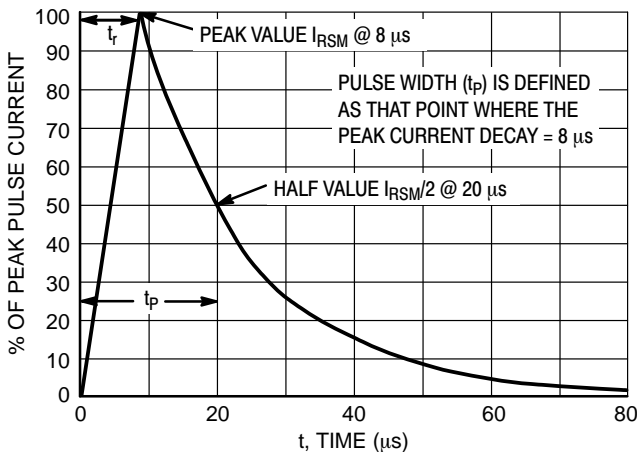

Figure 1. IEC61000-4-5 8/20 μs Pulse Waveform
1. Non-repetitive current pulse per Figure 1 (Pin 5 to Pin 2)
(t_p = 8/20 μs per Figure 1)